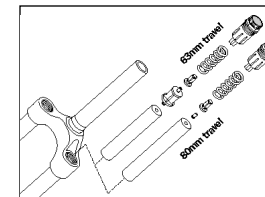

Fig. 2
2. Remove the spring stack assembly (top cap, coil spring, spring rate adjuster, spacer and MCU). See Fig. 2.